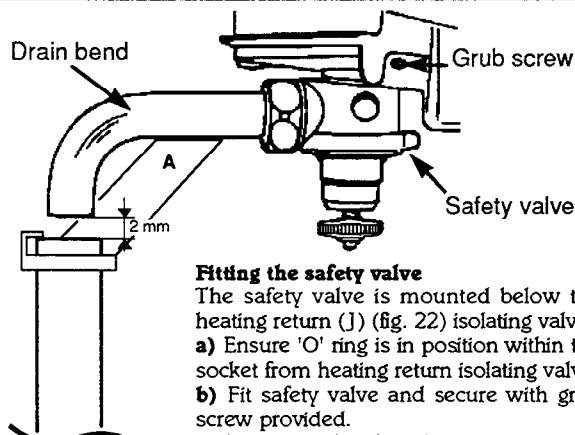

Fig. 24
**N.B.** The drain must be 22 mm and the 14 mm drain bend from the safety valve must be installed so that discharge of water is directly over the 22 mm drain and readily visible. A tundish arrangement is acceptable. The connection must NOT be made by a capillary or compression fitting directly between the 14 mm drain bend and the 22 mm discharge pipe without a 2 mm air gap (see fig. 24).